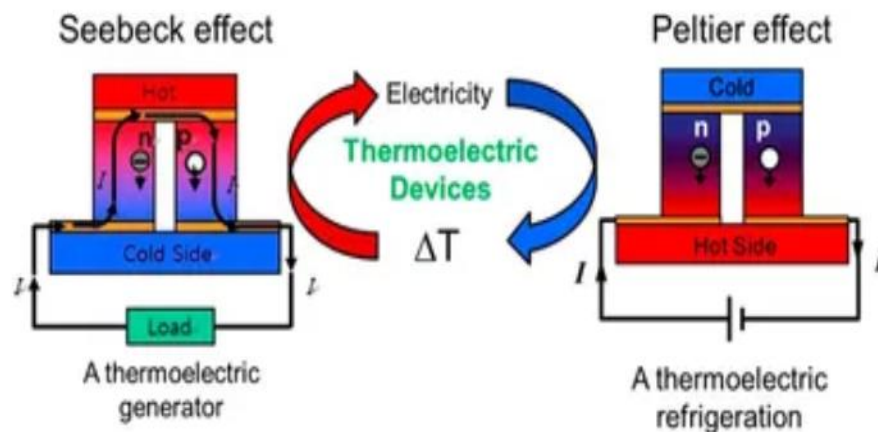

Figure 20. Heat transport using the Peltier effect
- **Description:** Heat transport using the Peltier effect (Figure 20), where an electric current creates a temperature difference across a thermoelectric material.